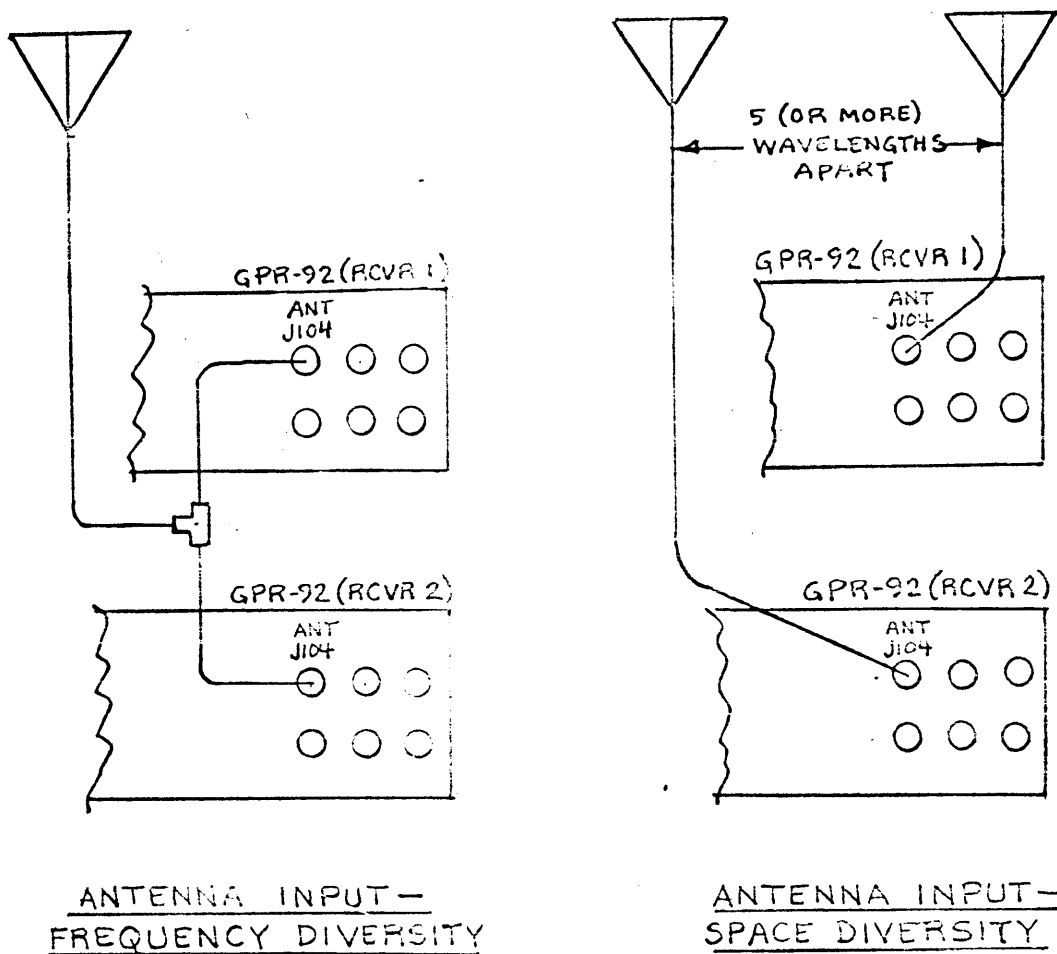

FIGURE 2-2. CONNECTION DIAGRAM, EXTERNAL EQUIPMENT TO DDR-7C :
a. INTRODUCTION - Figure 2-2 illustrates external equipment connections for the DDR-7C. The following paragraphs describe each connection.